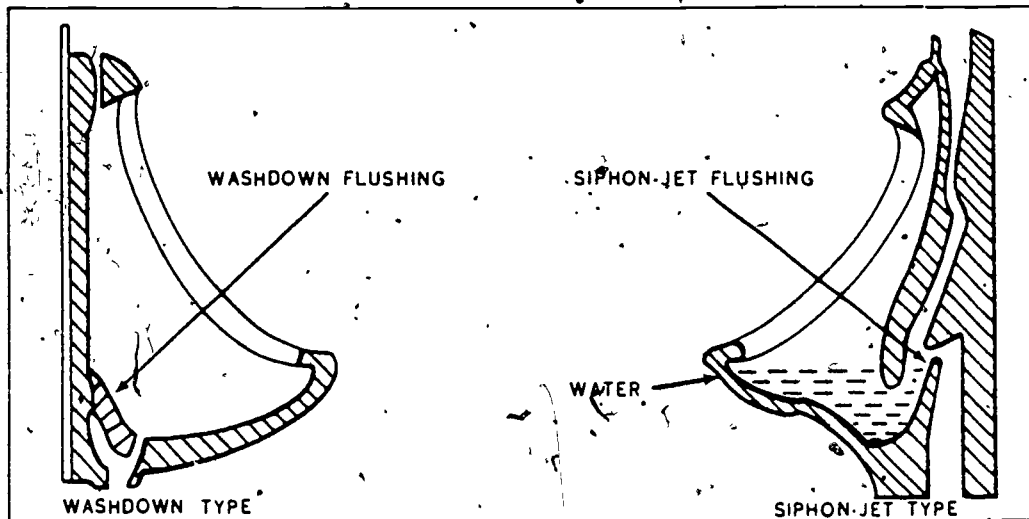

Figure 3-4. Types of wall-hung urinals
**Urinal Drainage and Vent Methods.** The waste and vent lines for urinals are very similar in design and construction to those of lavatories. The type of urinal to be installed determines the design of the waste and vent systems. There are four basic types of urinals: the trough, the stall, the wall-hung, and the pedestal. The trough and the stall type of urinals are not approved for new Air Force construction or maintenance replacement. As a result, you will be primarily concerned with the installation and maintenance of the wall-hung and pedestal type urinals. These urinals operate on one of two types of flushing operations, and this in turn determines the method recommended for venting the fixture trap. Wall-hung and pedestal type urinals have either a washdown or a siphon-jet flushing action. The washdown type usually has an external trap. Wall-hung and pedestal type urinals have traps built into the fixture. A cross section of both types of urinals is shown in figure 3-4. In the washdown type, the bowl does not carry a body of water to dilute the urine which remains in the bowl unless it is flushed each time after it is used. Since the urine is not always washed out of the bowl, it gives off an offensive odor. This condition is aided considerably in the siphon-jet type, because there is at all times a body of water in the bowl so that the urine is diluted as soon as it enters the bowl.